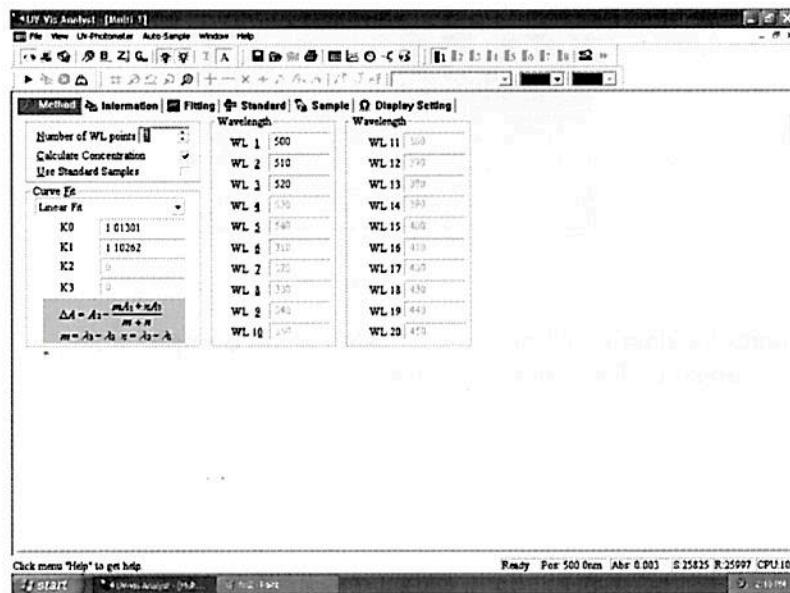

Fig. 4-2
1. Click  on the toolbar, appears follow form (Fig. 4-2).